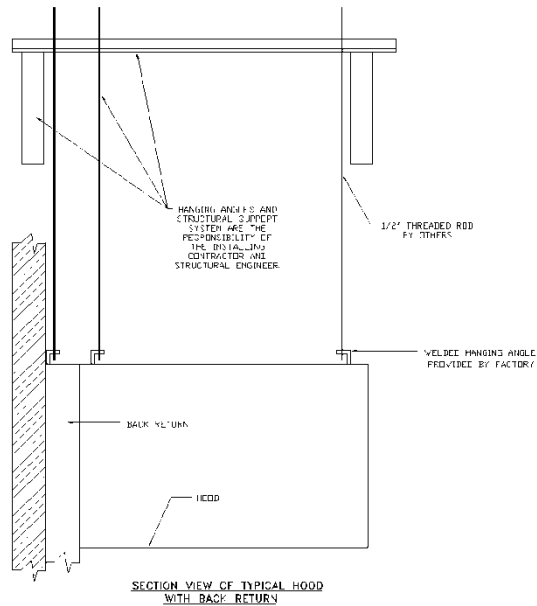

Figure 7
5. The back return is typically hung so its top edge is the same height as the top edge of the hood. **See Figure 7.** Refer to Step 2 in the *Installation of a Single Hood* instructions to determine the hood and back return hanging heights.